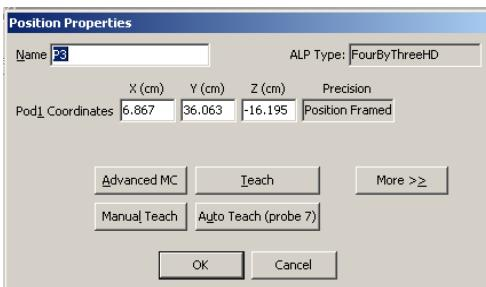

Figure 3. Position properties for framing.
- 2.4 Double-click on position P3 and the framing window will open (Figure 3). Depending on the position selected (e.g., P3 versus P10), the Auto Teach button will indicate which probe is to be used. The probe numbers begin at #1 in the back and end at #8 in the front-most position.
- 2.7 Click on the Auto Teach button (shown in Figure 3).